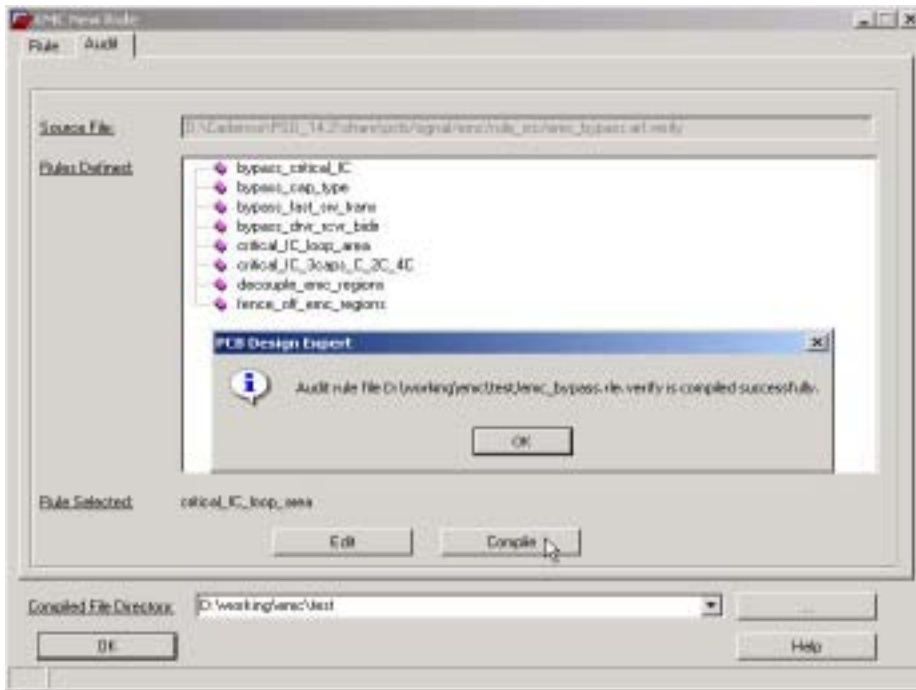

Figure 7 Verify that the properties required by the selected rules have been properly defined
- Use Audit commands to verify that the properties required by the selected rules have been properly defined, as shown in Figure 7.